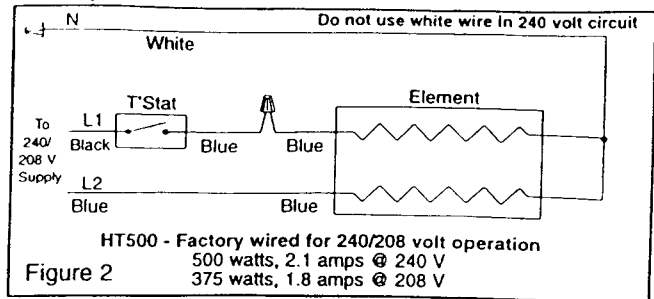

Figure 2
3. To operate the heater at 208 through 240 volts, connect power supply wiring to heater wiring following the wiring diagram shown in Figure 2. **DO NOT USE THE WHITE WIRE MARKED "N" FOR WIRING TO 208 THROUGH 240 VOLTS.**